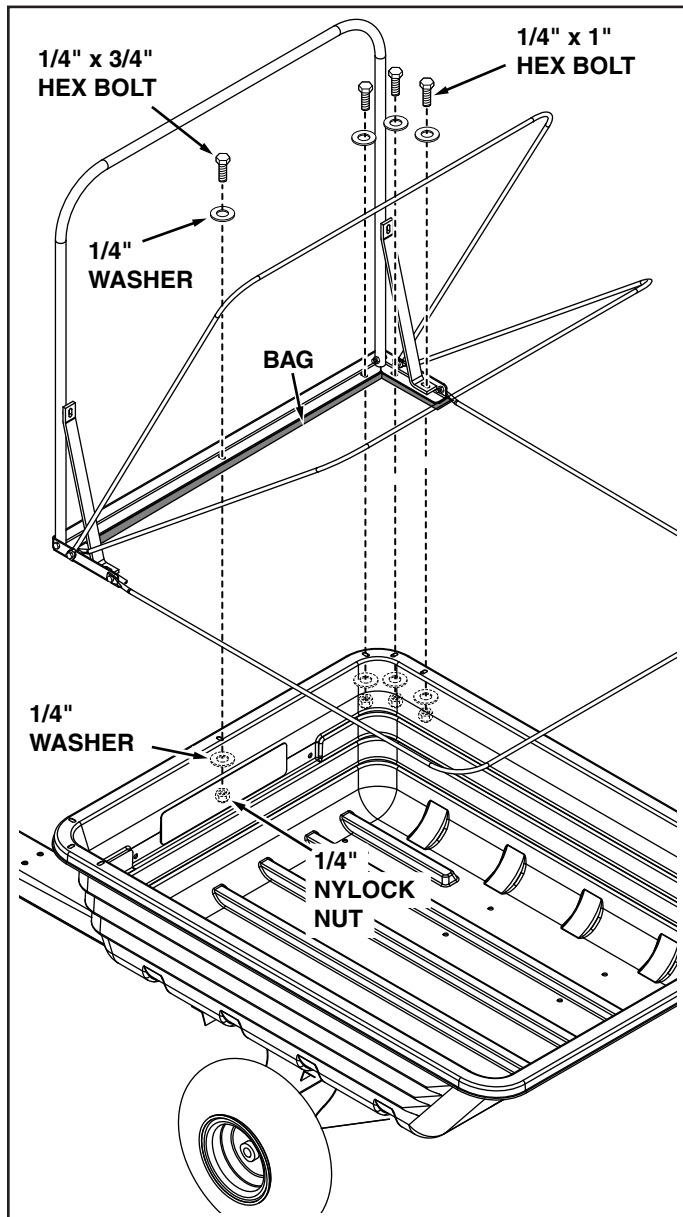

FIGURE 21
While performing the assembly operations in figure 21, make sure the cart bag is between the top angle support and the cart.
- Place the top angle support and cart bag on top of the cart as shown in figure 21. Then, using a screwdriver or other sharp object, poke holes through the cart bag for the bolts that will be assembled.
- Attach the top angle support and braces to the cart using five 1/4" x 3/4" hex bolts, two 1/4" x 1" hex bolts through braces, fourteen 5/16" washers (one placed on each side) and seven 1/4" nylock nuts. **DO NOT TIGHTEN YET.** See figure 21.